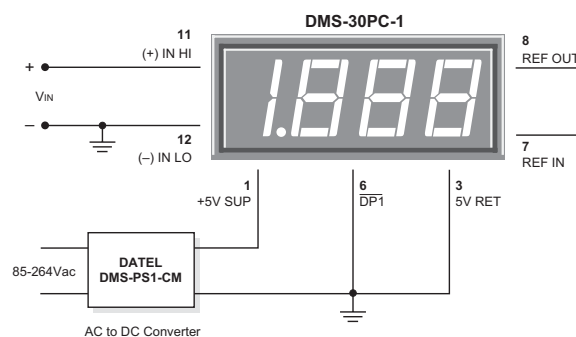

Figure 2. Single-Ended Input Configuration
- 1. Single-Ended Input Configurations:** True single-ended measurements can be made with any DMS-30PC meter. The circuit of Figure 2 avoids problems normally associated with ground-loop currents. Separate ground runs should be used for 5V RETURN (pin 3) and (–) INPUT LO (pin 12). This will ensure that large LED currents will not flow in the wiring that connects V_{IN} to (–) INPUT LO (pin 12). Ground-loop currents can cause unstable readings.